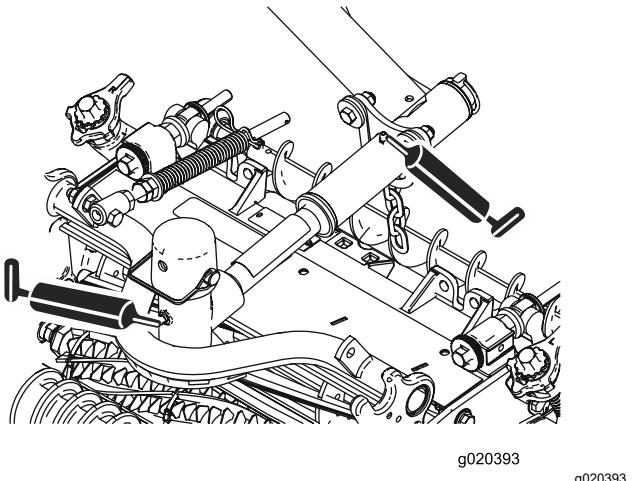

Figure 48
- Cutting unit pivots (2 each); refer to Figure 48.